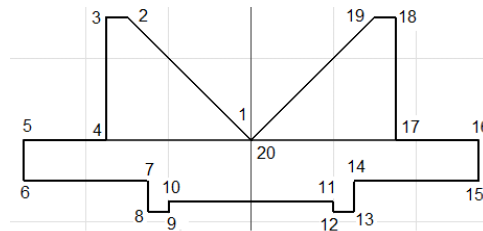

Figure 2-58 Sketch for Tutorial 1
9. Now, you need to create the third line between points 3 and 4, refer to Figure 2-58. To do so, move the cursor downward in the graphics window. Enter **3** in the length input field,
10. Move the cursor toward left in the Graphics window. Enter **2** in the length input field, press TAB to switch to the angle input field, and enter **90** in it; a line is created between points 4 and 5, refer to Figure 2-58.
11. Move the cursor downward in the Graphics window. Enter **1** in the length input field, press TAB, and enter **90** in the angle input field; a line is created between points 5 and 6, refer to Figure 2-58.
13. Move the cursor downward in the Graphics window. Enter **0.75** in the length input field, press TAB, and enter **90** in the angle input field; a line is created between points 7 and 8, refer to Figure 2-58.
14. Move the cursor toward right in the Graphics window. Enter **0.5** in the length input field, press TAB, and enter **90** in the angle input field; a line is created between points 8 and 9, refer to Figure 2-58.
15. Move the cursor upward in the Graphics window. Enter **0.25** in the length input field, press TAB, and enter **90** in the angle input field; a line is created between points 9 and 10, refer to Figure 2-58.
16. Move the cursor toward the right in the Graphics window. Enter **4** in the length input field, press TAB, and enter **90** in the angle input field; a line is created between points 10 and 11, refer to Figure 2-58.
17. Move the cursor downward in the Graphics window. Enter **0.25** in the length input field, press TAB, and enter **90** in the angle input field; a line is created between points 11 and 12, refer to Figure 2-58.
field, press TAB and enter **90** in the angle input field; a line connecting points 12 and 13 is created, refer to Figure 2-58.
19. Move the cursor upward in the Graphics window. Enter **0.75** in the length input field, press TAB, and enter **90** in the angle input field; a line connecting points 13 and 14 is created, refer to Figure 2-58.
20. Move the cursor toward the right in the Graphics window. Enter **3** in the length input field and **90** in the angle input field; a line connecting points 14 and 15 is created, refer to Figure 2-58.
21. Move the cursor upward in the Graphics window. Enter **1** in the length input field, press TAB, and enter **90** in the angle input field; a line connecting points 15 and 16 is created, refer to Figure 2-58.
22. Move the cursor toward the left in the Graphics window. Enter **2** in the length input field, press TAB, and enter **90** in the angle input field; a line connecting points 16 and 17 is created, refer to Figure 2-58.
23. Move the cursor upward in the Graphics window. Enter **3** in the length input field, press TAB, and enter **90** in the angle input field; a line connecting points 17 and 18 is created, refer to Figure 2-58.
24. Move the cursor toward left in the Graphics window. Enter **0.5** in the length input field, press TAB, and enter **90** in the angle input field; a line connecting points 18 and 19 is created, refer to Figure 2-58.